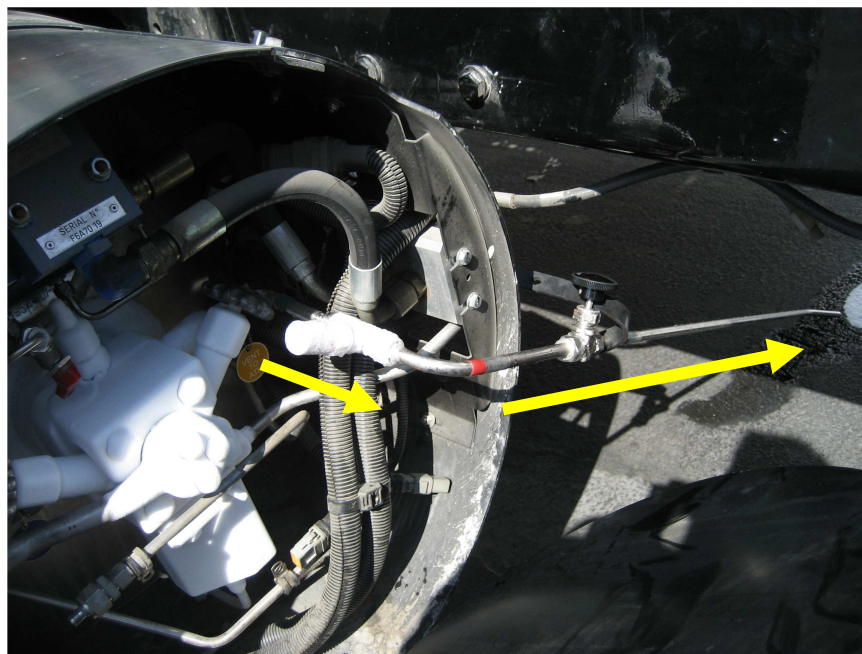

Figure 8. Attachment of the Vent Valve Adaptor & Vent Stack
23. Attach the *Vent Valve Adaptor (RED)* to the tank adaptor, and the *Vent Stack (WHITE)* to the vent valve adaptor, See Figure 8. Ensure that the bend at the tip of the vent stack points down towards the ground. Close the vent valve fully.